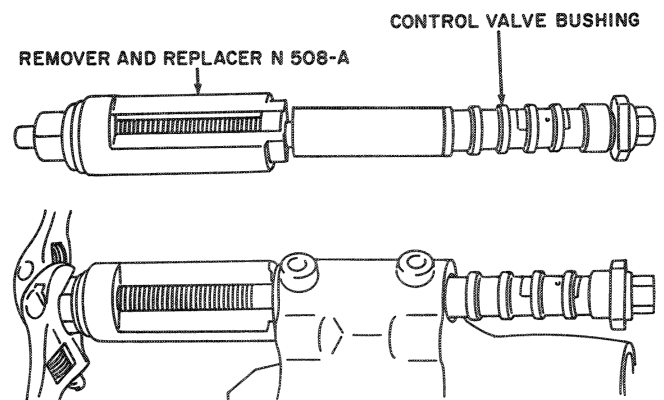

Figure 14—Installing Control Valve Bushing
4. Secure the cylinder housing in a vise, then install the pilot of Remover and Replacer, N-508-A, in the bushing bore. Install the puller shaft through the pilot and bushing, making certain that the large land of the bushing leads into the bore. Install the washer so that the small diameter pilots into the end of control valve bushing, then lubricate the bushing and pull it into the housing, Figure 14.